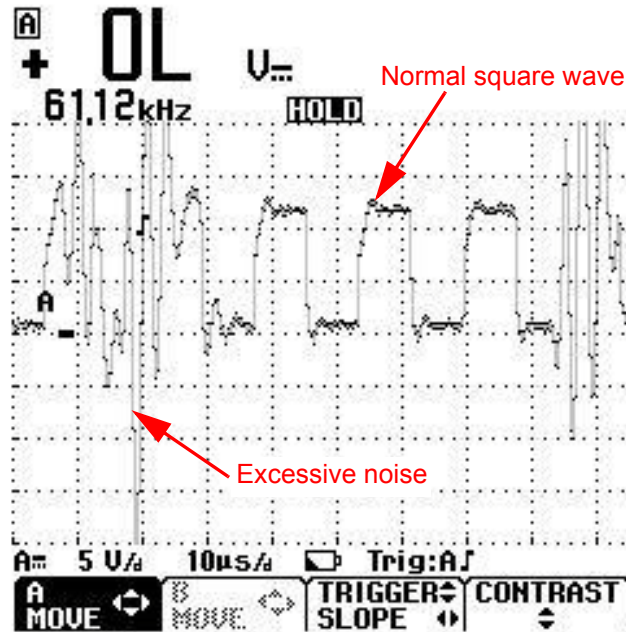

Figure 1: Encoder Waveforms
- Use a scopemeter (such as a Fluke model 123) to view the encoder signal at the encoder board in the VFD (see Figure 1 on page 2). The waveform should consist of square waves, although the lines themselves may appear a bit fuzzy. Nevertheless, if any of the “fuzz” or voltage spikes are larger than the height of the waveform itself, there is likely a problem with a power cable or encoder cable shield.